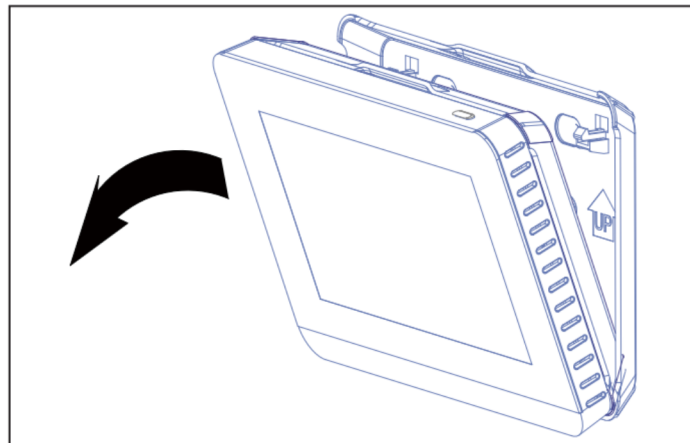

Figure 2 Remove back cover from controller
3.1.1 Remove the back cover from the controller using a Phillips-head screwdriver. See Figure 2.